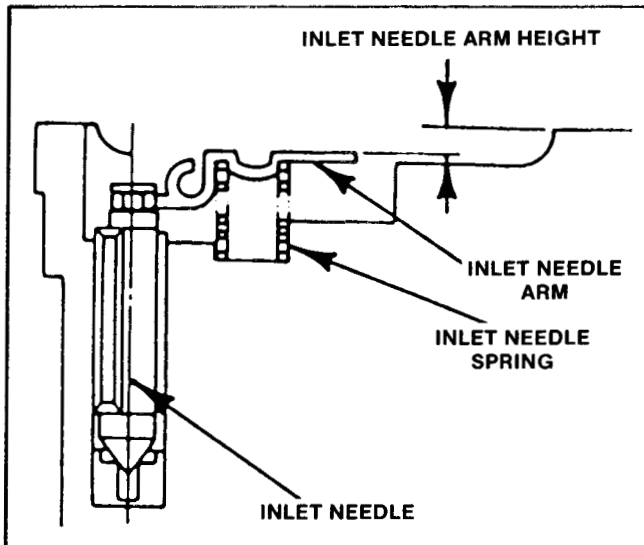

Figure 28
8. Using the carburetor body surface as reference, check the inlet valve height. Inlet valve height can be checked with a height gauge or with an accurate depth gauge. See Figure 28.